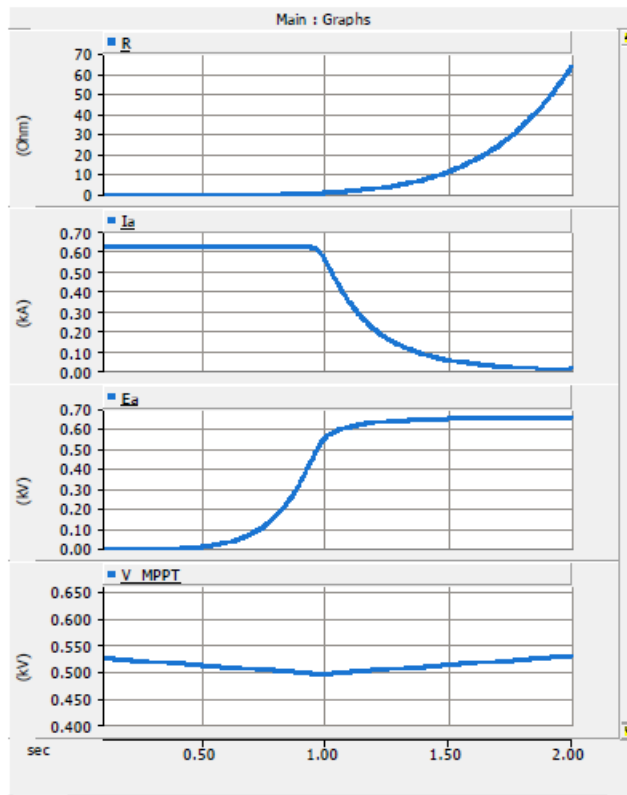

Figure 5: Variation of the resistance (R) in the circuit and the consequence variations in current and voltage.
Figure 5 shows the variation of resistance (R) over time and the consequent variations of the terminal voltage  $E_a$  and current  $I_a$ . The reference voltage of the maximum power point tracker (MPPT) is also shown in Figure 5. As can be seen from the figure the  $V_{MPPT}$  is between 0.5 and 0.55 kV for this photovoltaic system.